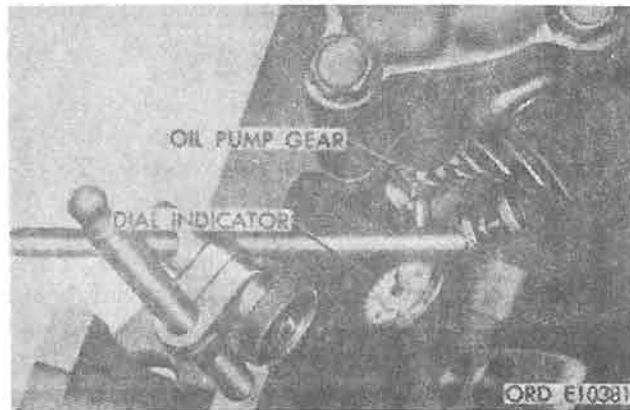

Figure 4-89. Measuring distributor and oil pump gear backlash.
a. Gear Backlash. Check and record backlash between oil pump drive gear and integral drive gear on camshaft by placing a dial indicator with the plunger bearing on one tooth of the pump drive gear (fig. 4-89).